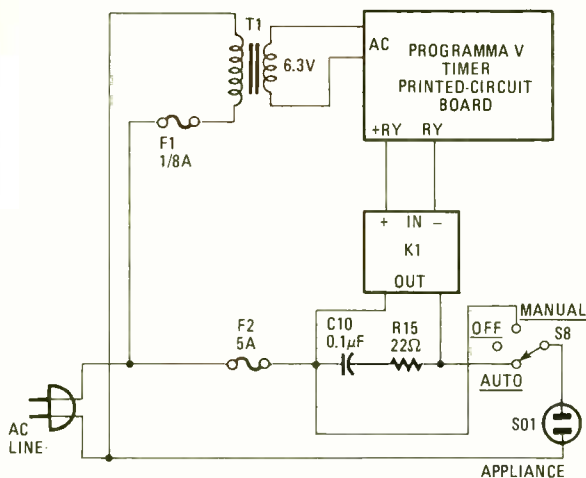

FIG. 7—FINAL HOOKUP is shown here. 117-volt AC line should be fused to protect the unit and the rated limit of the relay's switching contacts.
The final step is to install the parts in the finished box and wire a few connections. Start by mounting the bezel on the front panel. Then mount four 1/2-inch spacers for the circuit-board mounting holes. Position the circuit board over the spacers and secure it with hardware. Turn to the switches and mount them in the appropriate holes. After that, mount the thumbwheel switches in place, using self-tapping screws. Carefully dress the excess ribbon cables from the switches neatly against the box. Install the remaining components. When mounting the solid-state relay, rub silicon grease on the mounting surface, and place a mica washer over it. Use a TO-3 power transistor type washer. Then rub some more grease on the washer. Secure the relay to the box using Teflon (TM) screws. That is important as the relay mounting may be connected to one of the relay terminals, and thus carry line voltage. Now wire up the remaining components. Refer to Fig. 7 for details. Connect the line wiring, remember that it can carry up to 5 amperes. Be sure to use at least #18 stranded wire for these connections. Also, it is imperative that all solder connections be good, and that no wire strands contact the chassis.